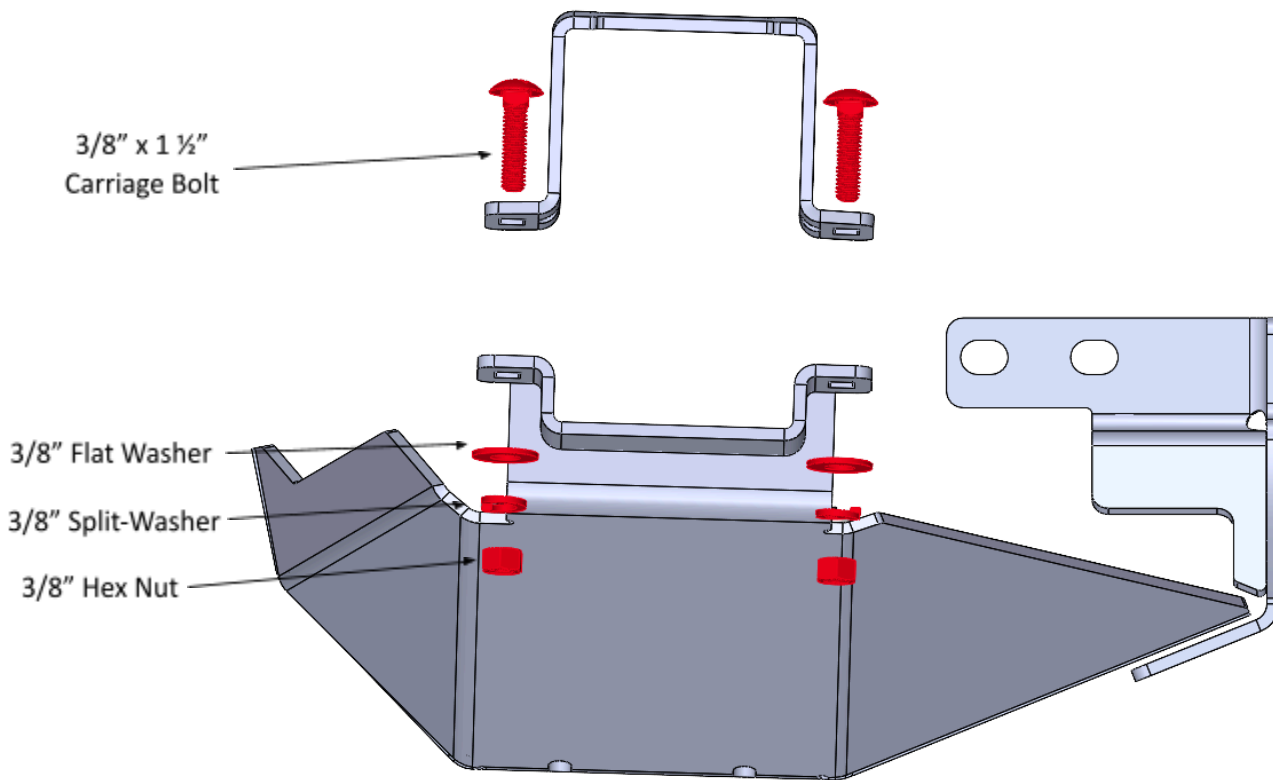

Figure 5 Axle Clamp Hardware Correct Orientation
3. Loosely Install the Differential Skid to the top axle clamps with the use of four (4) of each of the included 3/8"x1.5" Carriage Bolts, 3/8" Split Washers, 3/8" Flat Washer, and 3/8" Nut.
- a. The axle clamps should be installed with the threads facing the ground in the orientation depicted in Figure 5.